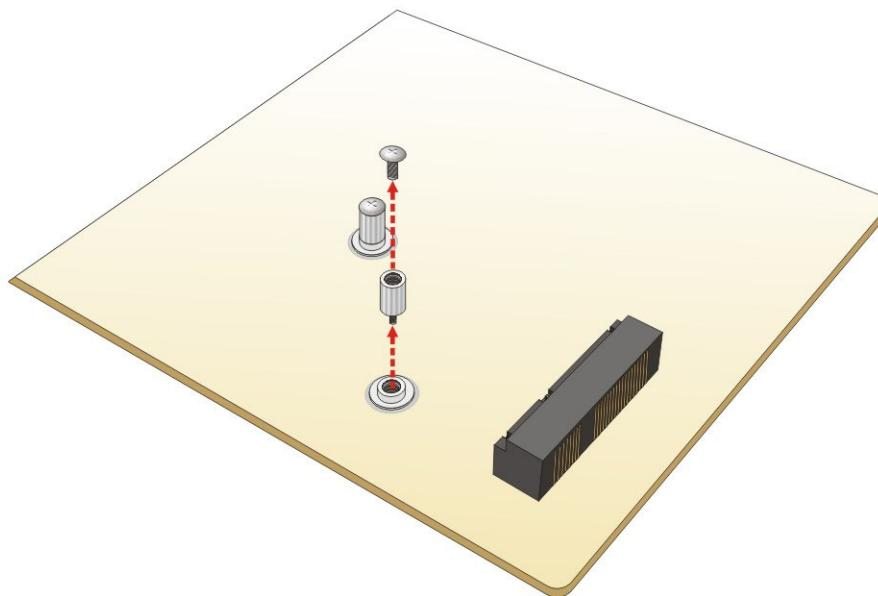

Figure 4-7: Removing the Retention Screw and Standoff for a Half-size PCIe Mini Card
Step 2: Remove the retention screw and standoff for a half-size PCIe Mini card. To avoid interference of the board circuit, remove the retention screw and standoff for a half-size PCIe Mini card as shown in Figure 4-7.